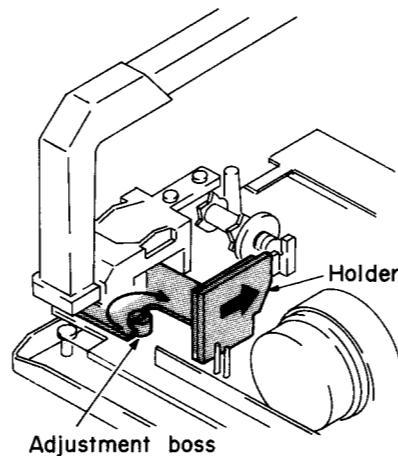

Fig. 3
- 4) Turn the adjustment boss clockwise (in the direction of the arrow) and move the holder fully in the direction of the arrow. (Refer to Fig. 3)